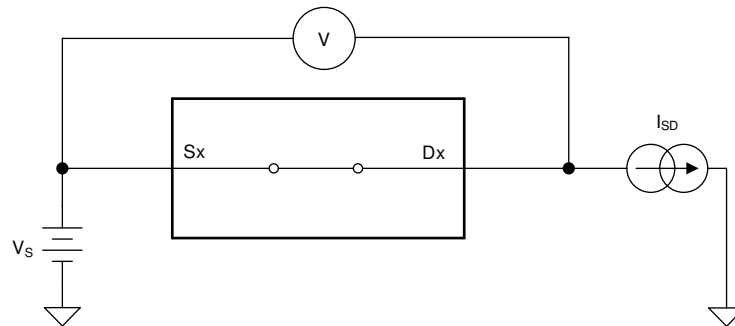

图 27. On-Resistance Measurement Setup
The on-resistance of a device is the ohmic resistance between the source (Sx) and drain (Dx) pins of the device. The on-resistance varies with input voltage and supply voltage. The symbol  $R_{ON}$  is used to denote on-resistance. The measurement setup used to measure  $R_{ON}$  is shown in 图 27. Voltage (V) and current ( $I_{SD}$ ) are measured using this setup, and  $R_{ON}$  is computed as shown below with  $R_{ON} = V / I_{SD}$ :